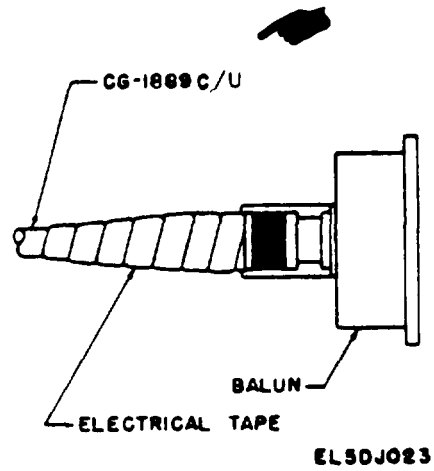

Figure 2-18. Preparing mated connectors for weatherproofing.
a. A method for moistureproofing mated rf connectors is to use the electrical tape (item 1 app E) over the connector junction. As in case of anticorrosion protection (para 2-4 I) d, taping should be renewed periodically. If both the silicone grease and taping are used, remove excess grease from the outside of the connector assembly before taping the assembly. Use taping for permanent or semipermanent outdoor installation where uncoupling is not anticipated more frequently than approximately once each three months or longer.
- (1) Assemble connectors to the cable.
- (2) Tightly apply electrical tape on cable immediately behind the connector to provide a smooth contour between cable and connector (fig. 2-18).